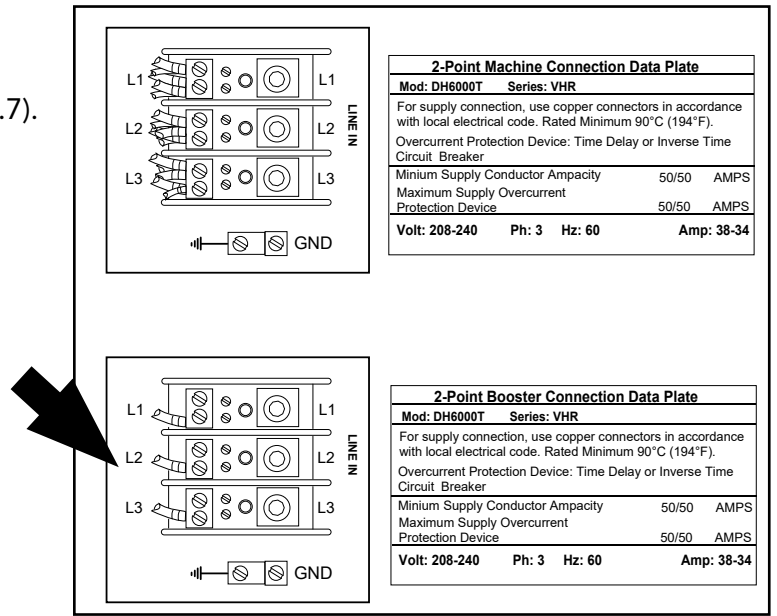

Fig. 7
10. Connect the booster wires to the booster terminal block (Fig.7).
11. Cover the existing 1-Point machine connection data plate with 2-Point Machine connection data plate from the kit. Install the 2-Point booster data plate adjacent to the booster terminal block (Fig. 7 and Fig. 8).